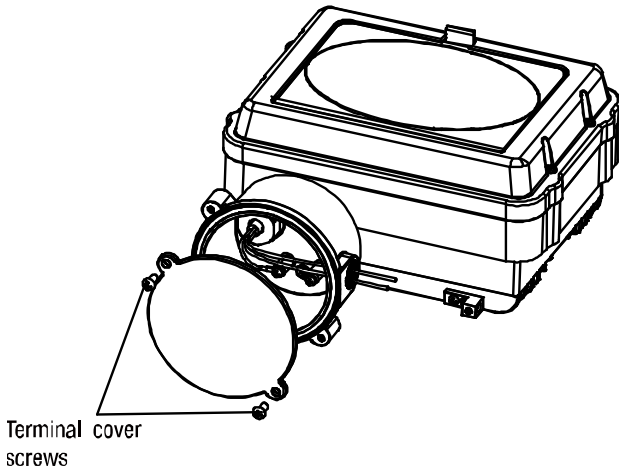

FIG. 1
- Remove the terminal box lid. (FIG.1)